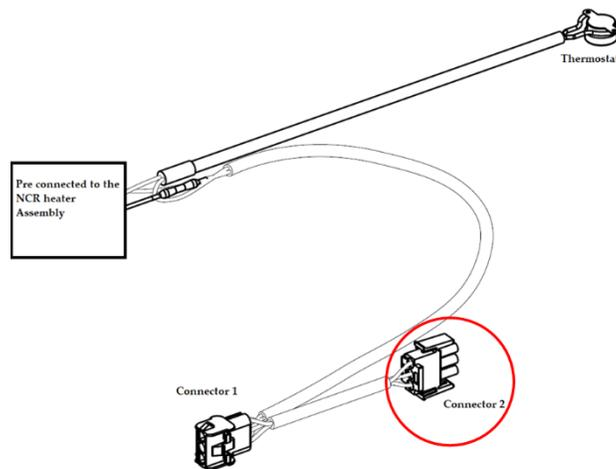
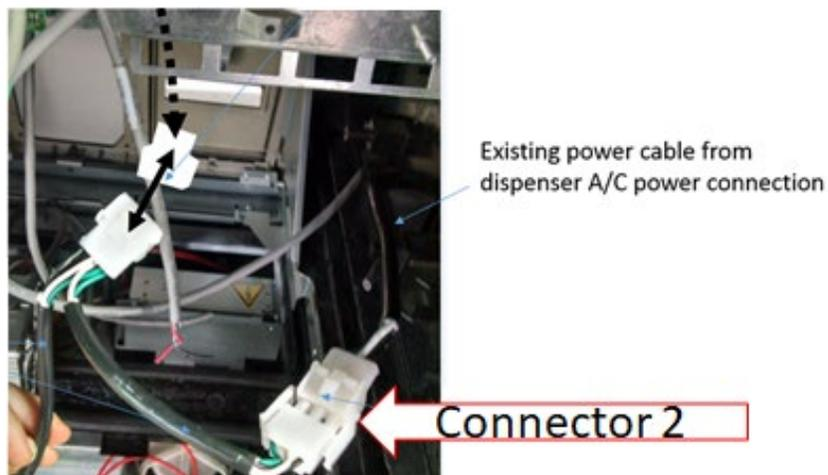

Figure 130
Figure 131
13) Affix Connector 2 (identified in Figure 130) to the existing dispenser A/C power cable as shown in Figure 131.